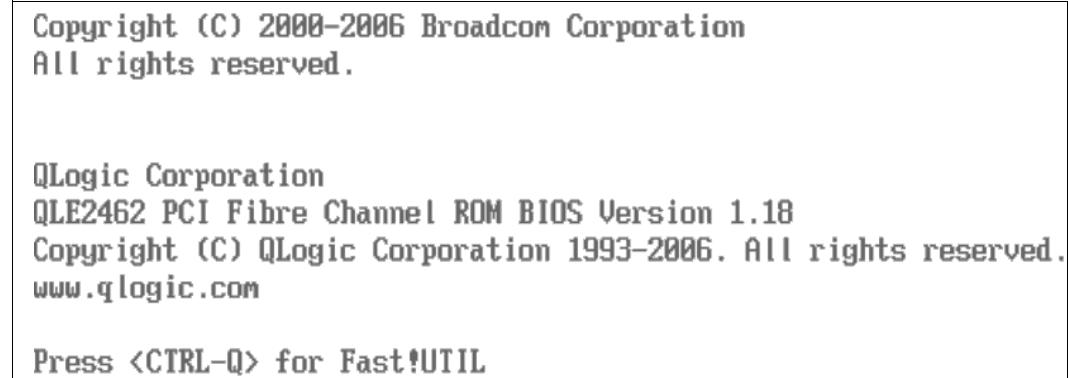

Figure 18-22 Pressing Ctrl+Q for Fast!UTIL panel
2. Press Ctrl+Q or Alt+Q to enter the BIOS configuration utility as shown in Figure 18-22.